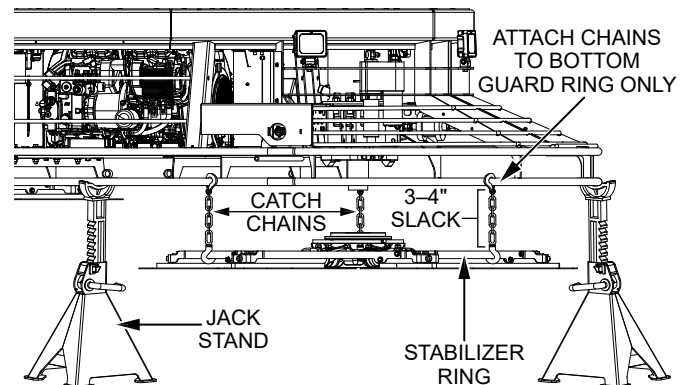

Figure 42. Preparation For Spider Removal
3. Place the trowel on **heavy-duty jack stands** (Figure 42) on secure, level ground in an area that is free of dirt and debris.
4. Attach one end of three equally spaced straps or **catch chains** to the **stabilizer ring** (Figure 42). Attach the other end of these straps or chains to the **bottom guard ring** in a manner that would prevent the spider assembly from falling.